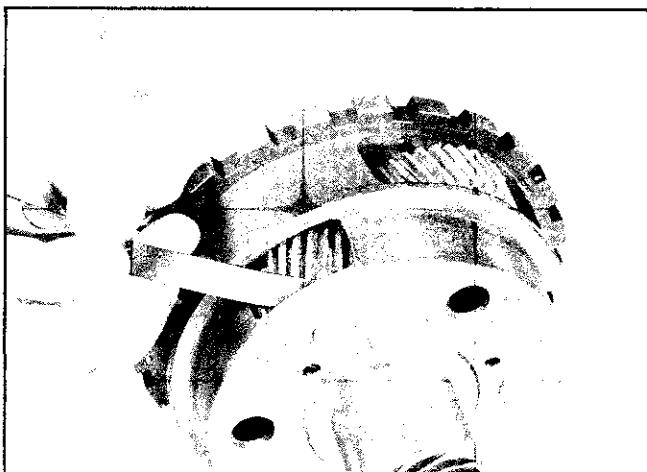

Fig. 7F-58 Checking Planet Pinion End Clearance
1. Remove planet pinion shaft lock plate screws and lockwashers (Fig. 7F-59).